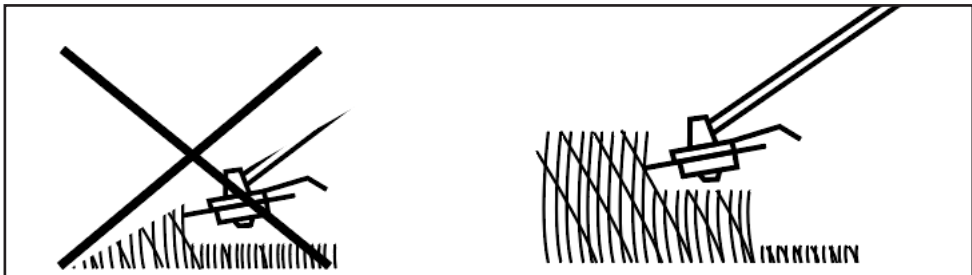

Fig. 16
- Avoid cutting tall grass in one cut. Trim taller grass in stages (Fig. 16).